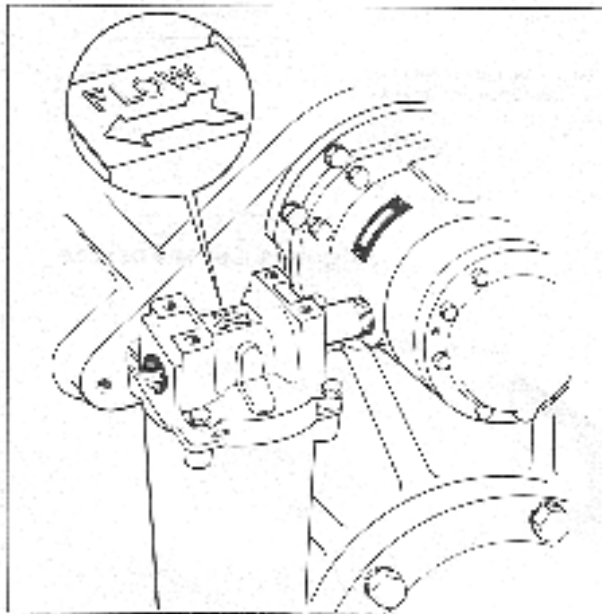

Fig. 16 CAUTION: Flow Arrow on Filter Must Point Away From Oil Pump.
2. Apply joint compound to threads and install pipe nipples, bushing and oil filter to oil pump. CAUTION: FLOW ARROW ON FILTER MUST POINT AWAY FROM PUMP. SEE FIG. 16.